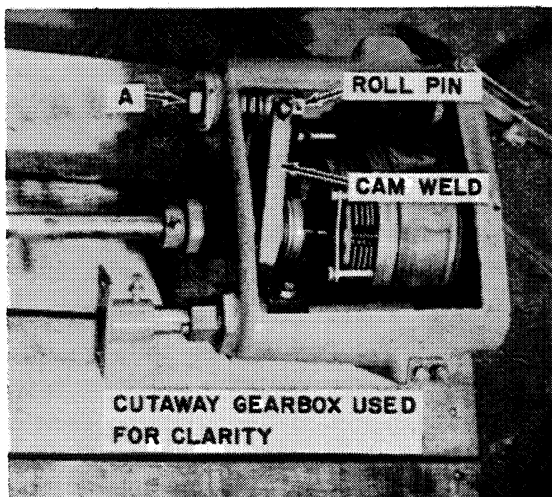

FIGURE 11
8. Check the cam weld assembly and if it is damaged in any way a new one should be used. The cam weld assembly can be removed from the gear box by removing nut A, Figure 11, and pulling the shaft and cam weld assembly out of the box. Drive the roll pin, Figure 11, out of the shaft and remove the cam weld assembly. Reinstall the cam weld assembly spring and shaft in the transmission case. Install a short piece of 1" shaft about 6" long in the input shaft bearing, slide the No. 128297 sleeve over the shaft. Center the cam weld assembly over the sleeve so that each side clears by $1/16"$. Securely lock nut A, Figure 11, to hold the cam weld assembly centered over the sleeve.